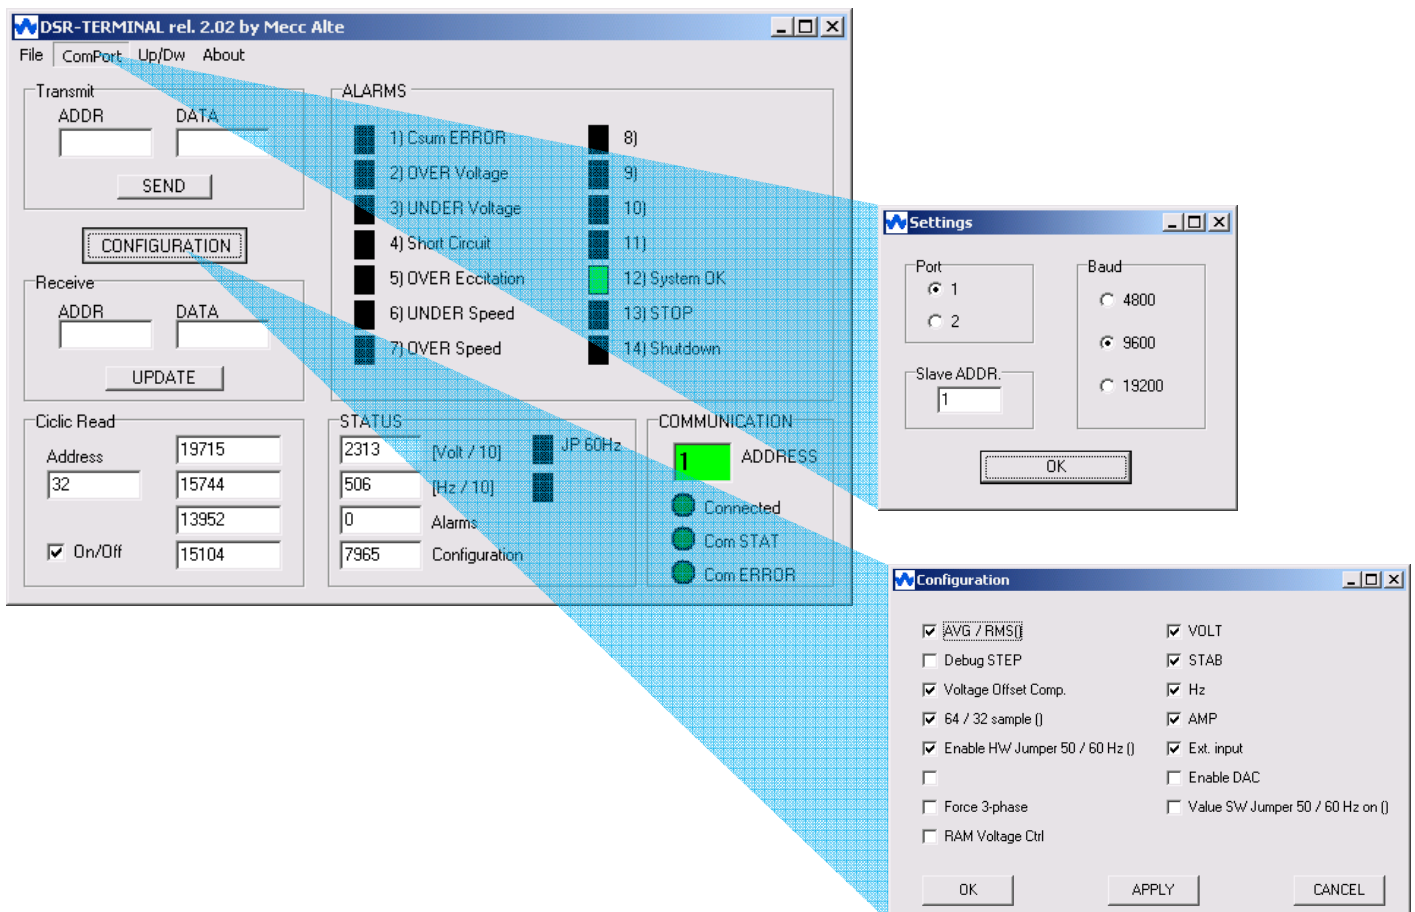

Fig. 14: DSR Terminal user Interface: Settings and Configuration Menu
Upon opening the user interface, the program is presented as indicated in the left part of figure 14.
2. **Settings** opens a window (as shown in figure 14), through which several parameters, concerning communications, can be set:
The **Configuration** Menu is indicated in figure 14; it permits setting of configuration flags of the DSR regulator (parameter 10).